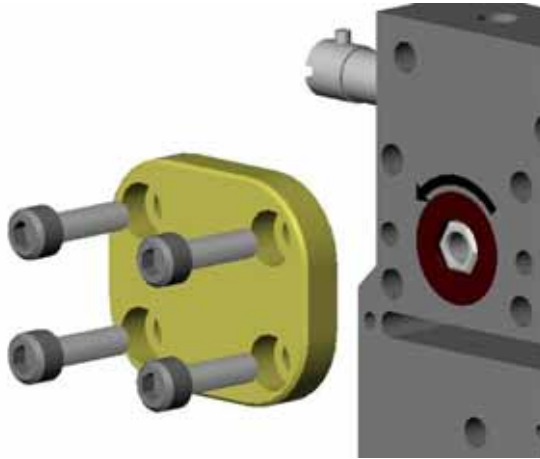

Figure 7-12 Installing the pump shaft end cap.
6. See Figure 7-12. When the pump shaft is in place, reinstall the pump shaft end cap.